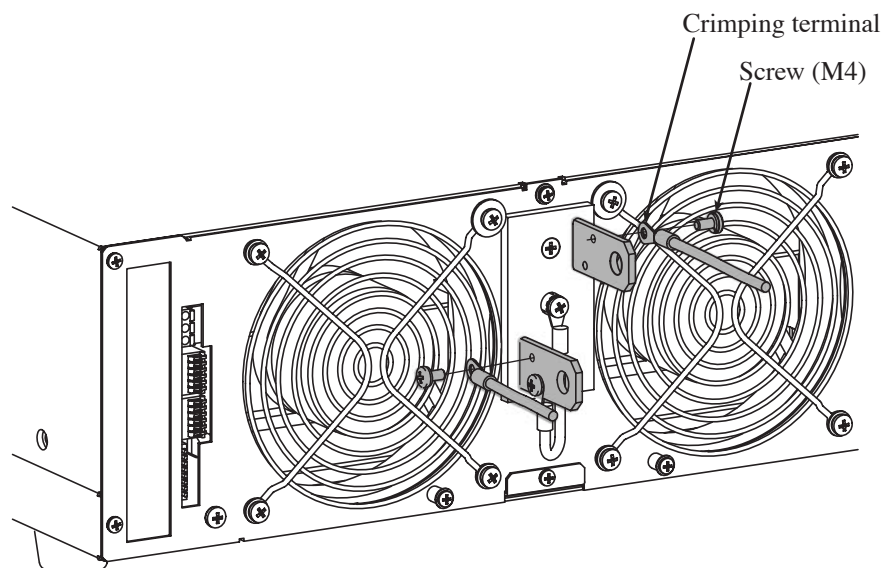

Fig. 3-11 Connection by M4 screw (PAM series 2kW model)
5. Connect the load cable to the DC OUTPUT terminal. See Fig. 3-11 or Fig. 3-12.